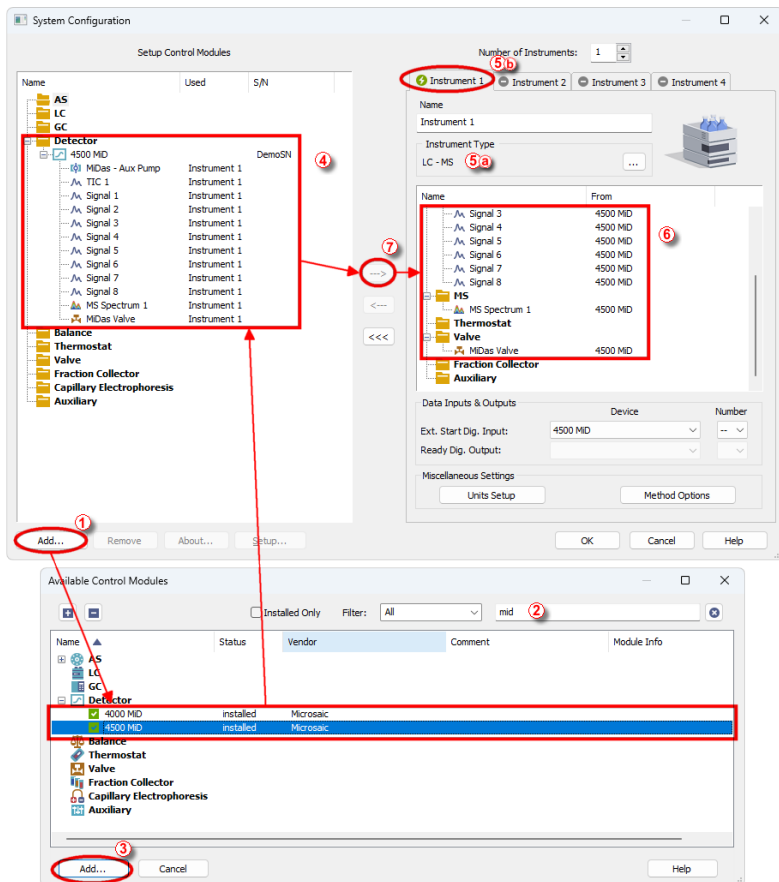

Fig. 2: How to add Microsaic 4500 MiD
- Press the **Add** button ① (see Fig. 2 on pg. 5.) to invoke the **Available Control Modules** dialog.
- You can specify the searching filter ② to simplify the finding of the driver.
- Select the **4500 MiD** and press the **Add** ③ button.